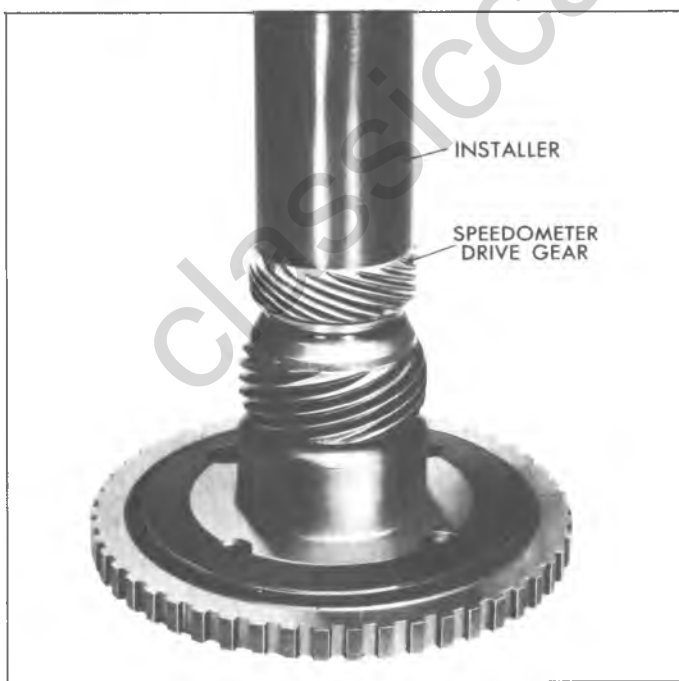

Fig. 5B—Installing Steel Speedometer Drive Gear
2. Install new steel speedometer drive gear and drive to location (5-43/64" below end of output shaft for all models except CA, CB and CR) (11-15/64" below end of output shaft for models CA and CB) (11-29/64" below end of output shaft for model CR) using J-5590 (fig. 5B).